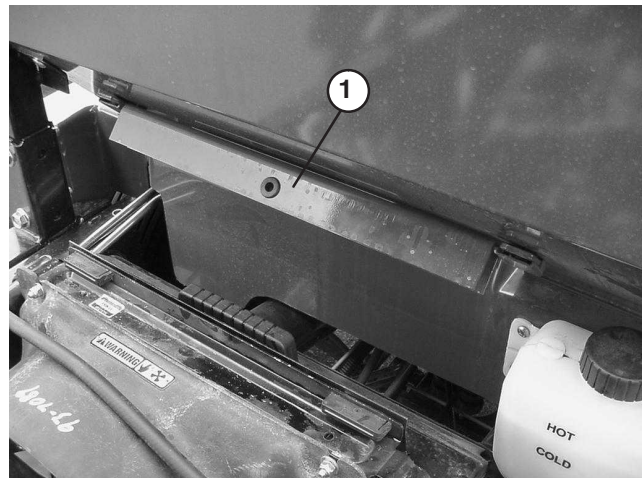

Figure 35
2. Remove bed support from storage brackets on back of ROPS panel (Fig. 35).